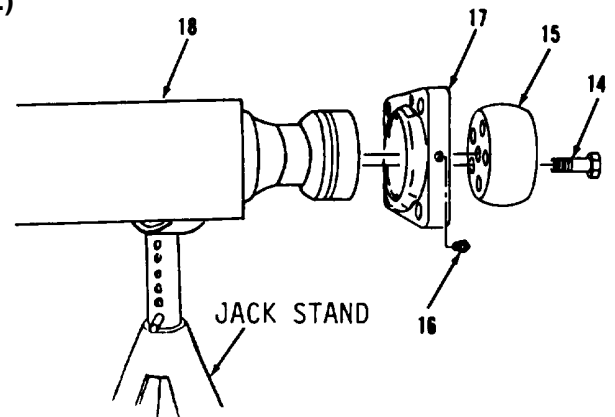

Figure 12-18.
- Remove five bolts (14), ball (15), fitting (16) and cap (17) from drawbar (18, Figure 12-18).
- Support drawbar (18, Figure 12-18) under front of vehicle on jack stands.
- Install cap (17), fitting (16), ball (15) and five bolts (14) to front corner of drawbar (18).